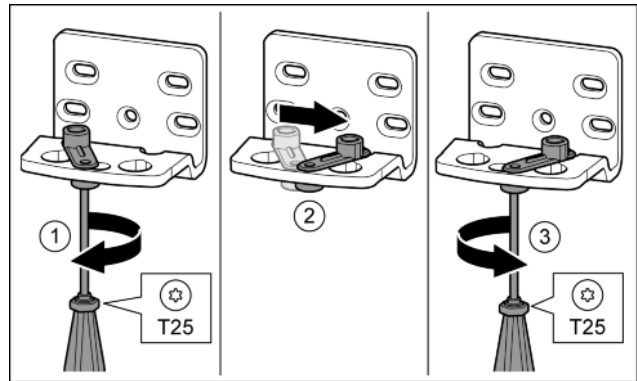

Fig. 11
- ▶ Loosen the screw using a T25 screwdriver. Fig. 11 (1)
- ▶ Lift the door closure aid and turn it 90° to the right in the hole. Fig. 11 (2)
- ▶ Tighten the screw using a T25 screwdriver. Fig. 11 (3)